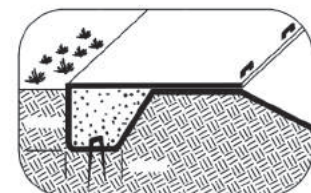

Fig. 7
- Anchor, fill and compact ends of blankets in 12" deep and 6" wide terminal anchor trench. Anchor with staples at 18" spacing (see Fig. 7).
- Dig 12" deep and 12" wide terminal anchor trench at downstream end (Fig. 7).
- Anchor, fill and compact downstream end blankets in terminal anchor trench (Fig.7).